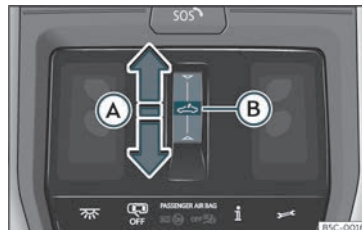

Fig. 92 On the interior roof lining: sunroof button.
- Automatic movement: slide your finger back over the functional area ⇄ >>> Fig. 92 A.
>>> **Fig. 92** (A) and keep pressed until the sunroof is fully closed.